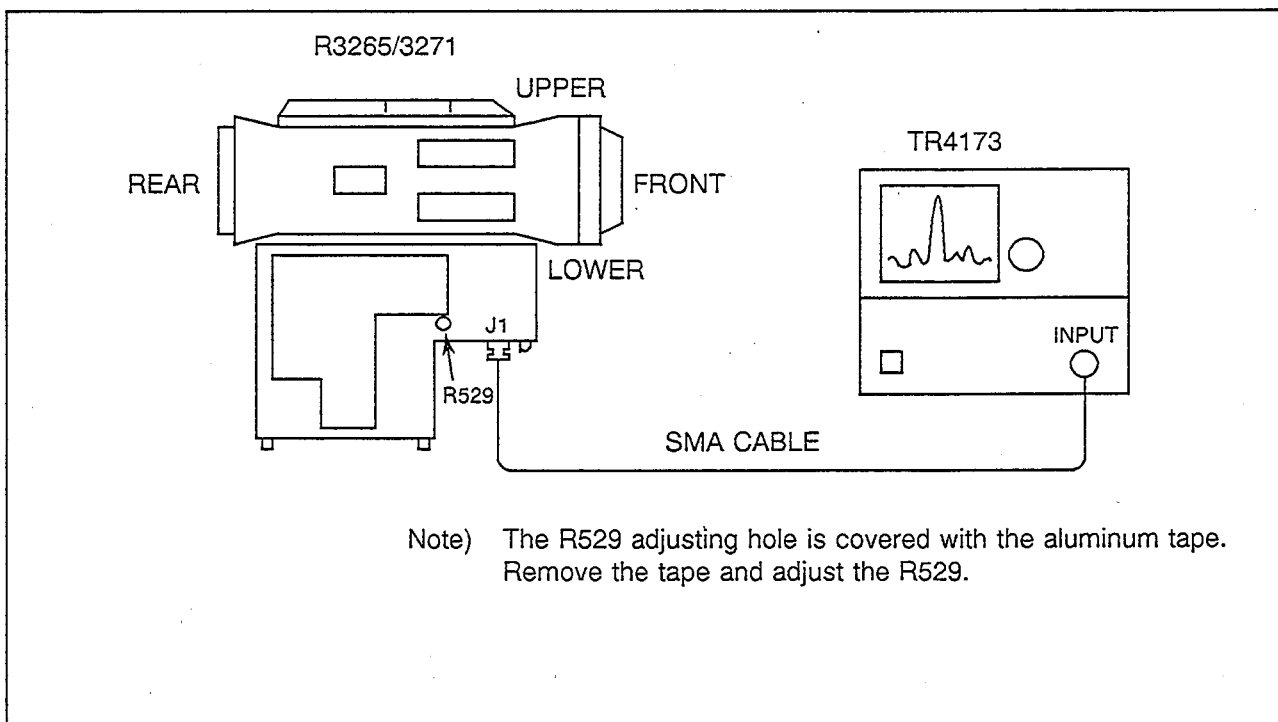

Figure 5-17 Sampler Synthe Adjustment
- (4) Connect the SMA cable between J1 and TR4173 (see Figure 5-17).
- (5) Turn on the POWER switch of R3265/3271, and set the controls as follows: